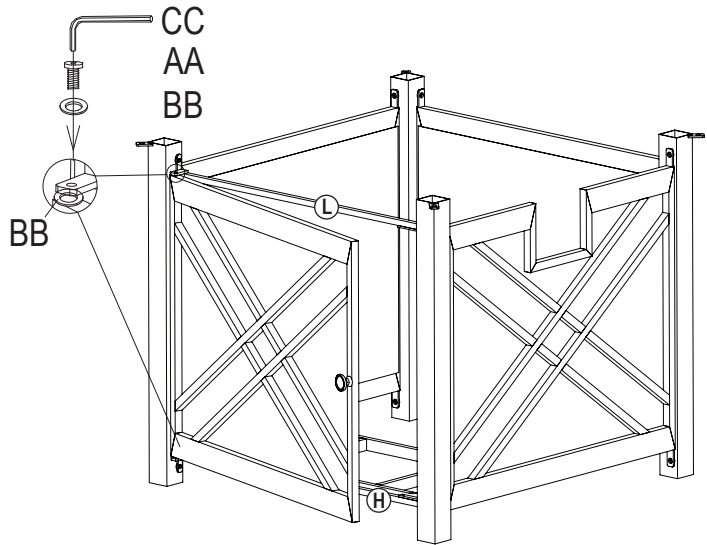

Figure 7
7. Attach door (I) to upper beam (L) and bottom beam (H) with bolt (AA) and washer (BB) using hex screw driver (CC), (see Figure 7).